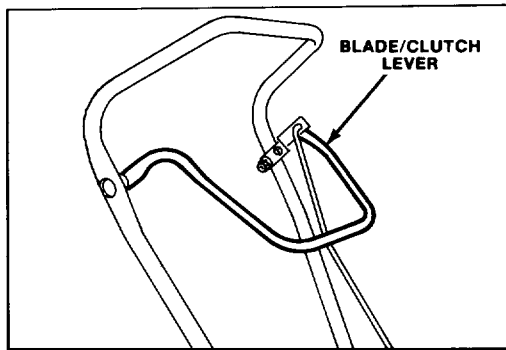
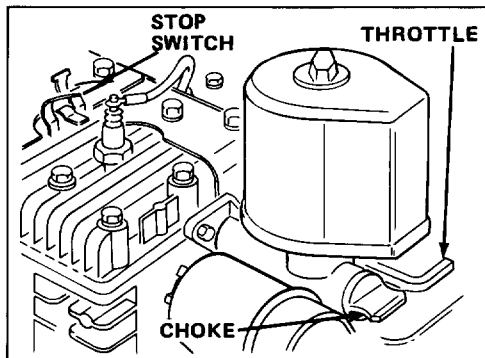
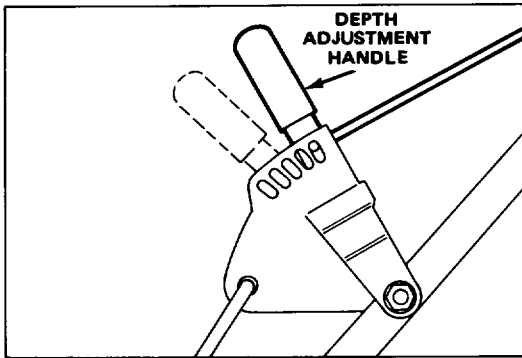

Figure 6
Figure 7
Figure 10
1. **CONTROLS** – Blade/clutch control bar is on upper handle (Fig. 6) and depth adjustment handle is on left side of upper handle (Fig. 10). Throttle, choke and stop switch are engine mounted (Fig. 7).
3. **EDGING** – Squeeze blade/clutch control bar (Fig. 6) against handle to engage blade and move cutter to preset depth. Release blade/clutch control bar to disengage blade and raise cutter head.
4. **STOPPING** – Release blade/clutch control bar (Fig. 6) and push engine stop switch against spark plug.
3. ADJUSTING DEPTH (Fig. 10) – Release blade/clutch control rod. Move depth adjustment handle forward to increase blade depth and rearward to decrease blade depth.